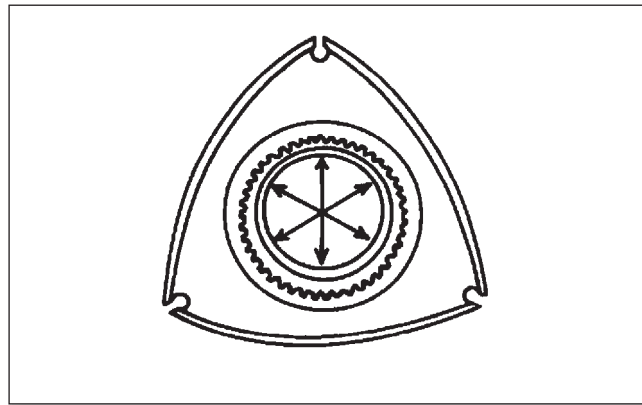

Figure 7
Using an inside micrometer, measure the rotor bearing at twelve (12) points (as shown in Figures 7 and 8). Calculate two oil clearance measurements using the following formula: